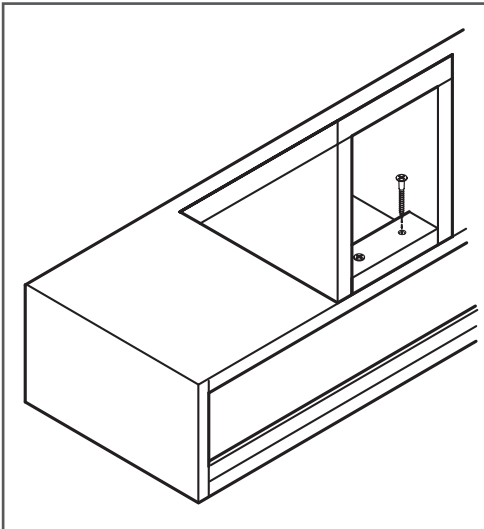

Figure 4
5. Align the holes of the corbel with the holes on the mantel. Attach each corbel using flat head wood screws (D.) (Figure 4).